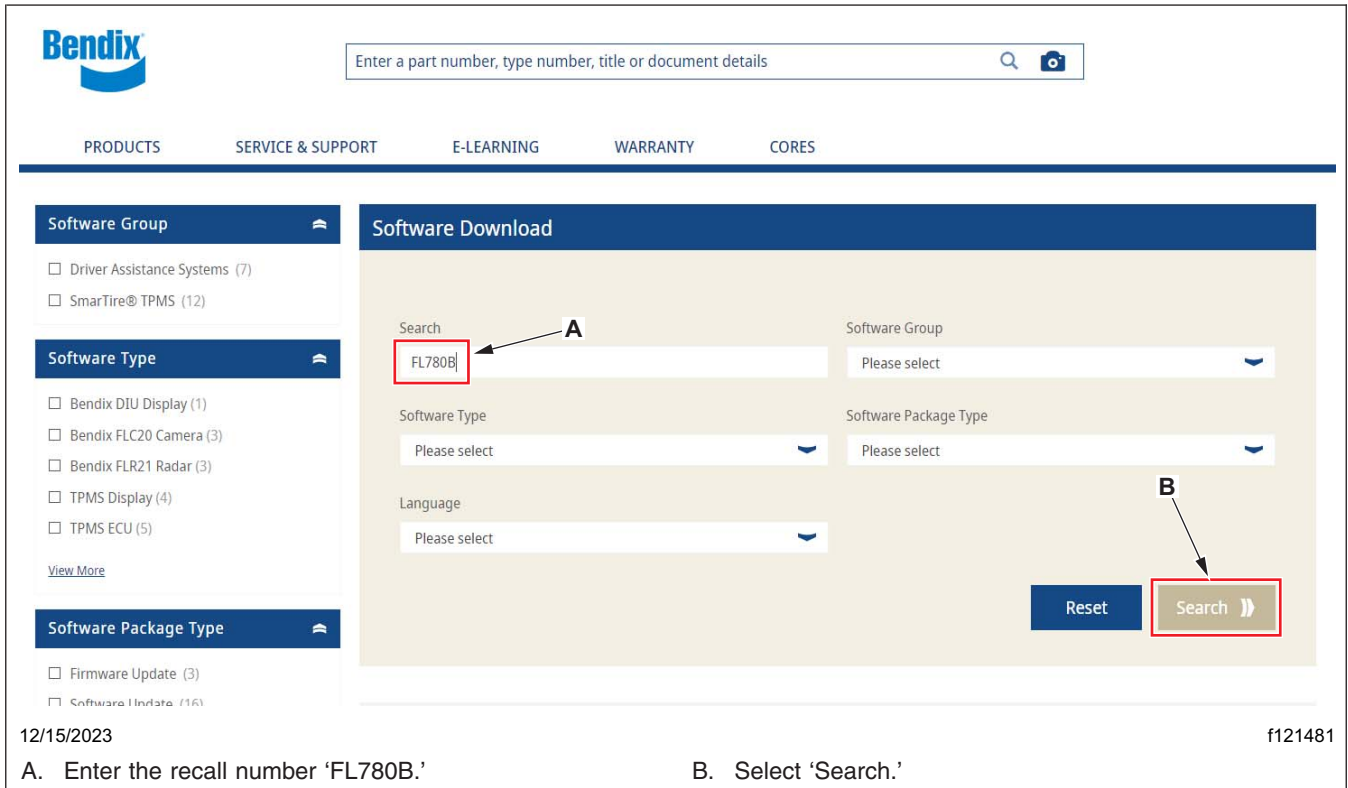

Fig. 13, Bendix Software Download Page
1.2 Enter the recall number 'FL780B' in the 'Search' field, as shown in Fig. 13. Select the 'Search' button.